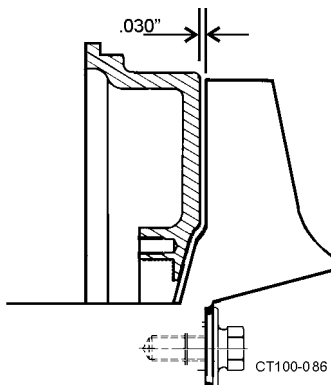

Figure 41 - Shim Placement
6. Temporarily put 0.03" shims between the impeller vane and back plate to a preset clearance. **Be sure to remove the shims before final assembly** (Figure 41).